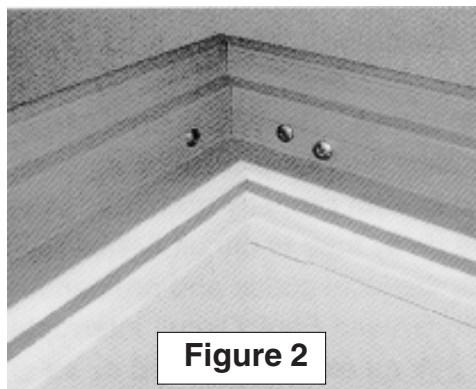

Figure 2
- There are two glass lids, a smaller one that fits in the lower track of the freezer and a larger one that fits in the upper track. The lower track has two (2) round retaining studs and the upper has four (4) round retaining studs (Figure 2).